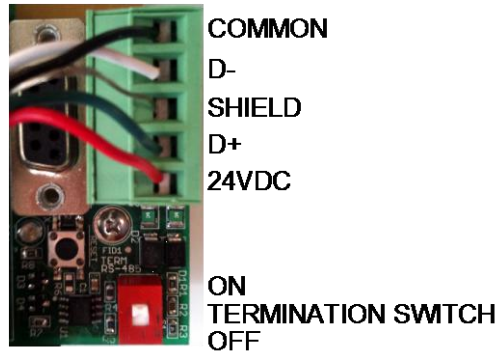

Figure 8 – Modbus RS-485 Network Connections
- Figure 8 – Modbus RS-485 Network Connections 11